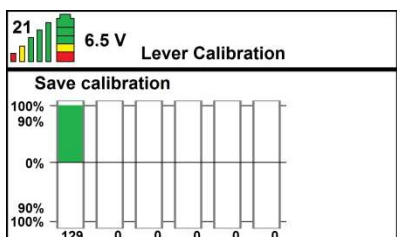

Figure: 21
- Press the ✓ button and you will be taken to the next screen. It says Save calibration. If you now operate a lever, the bar will turn green again in the direction you have chosen. At the maximum forwards or backwards position, the green bar will fill to 100%. If everything is working properly, press the ✓ button and the settings will be saved (see figure 21).